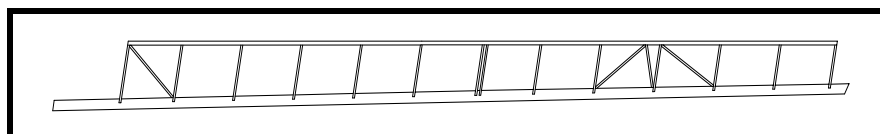

Figure 9
- ❑ Install the trailing edge strip. See Figure 9. Notch the trailing edge strip for the wing ribs at Sta. 1, 2, and 14 as shown on Drawing No. 206.